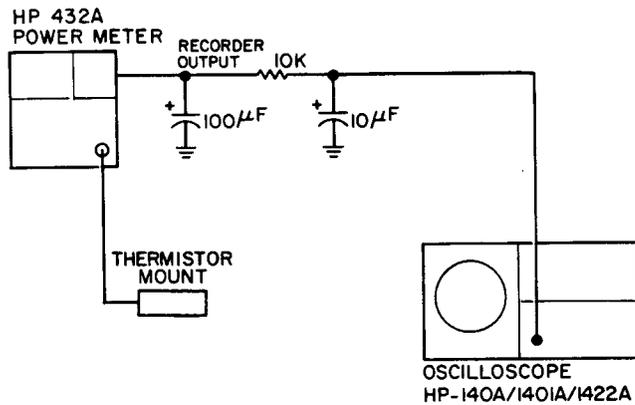

Figure 5-2. Zero Carryover Test Setup
e. Connect 141A through filtering network to rear of 432A as shown in Figure 5-2. Set 141A controls as follows: